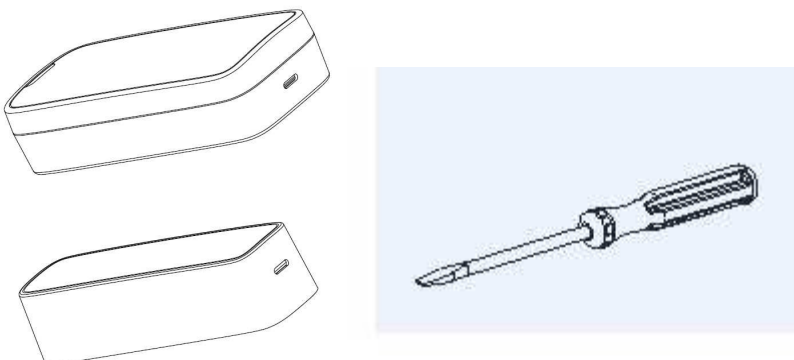

Figure 4-9
Step 1. Open device housing, follow Figure 4-9. Use straight screwdriver to take down device rear cover. Remove the circuit board before you go one with step 2 or use 3M rubber form as mounting option.